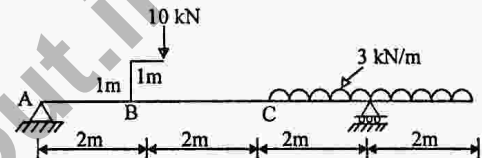

Fig. 3
4. (a) Draw SF and BM diagrams for the beam shown in the figure 3. Locate point of zero shear and contra flexure if any. 8